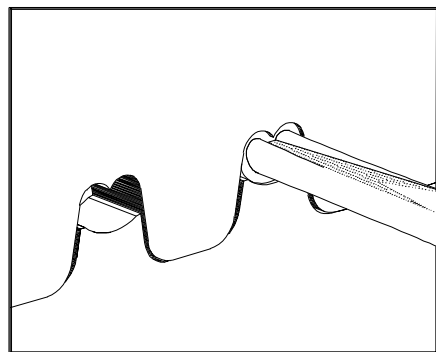

Figure 3
- Place a wire into the terminal and up against the locator blade. See Figure 3. On tools without locators line the wire up with the conductor and insulation grips visually.